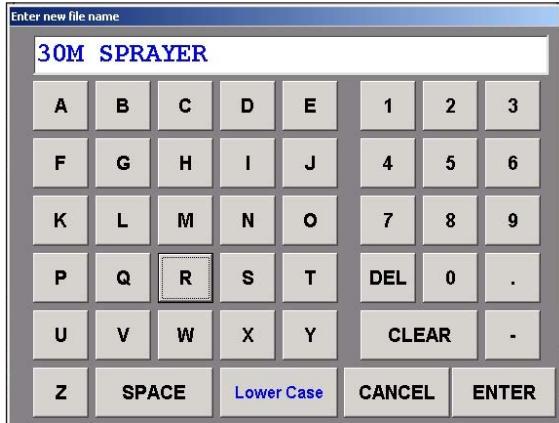

Figure 9-2. Screen Keyboard
The screen shown in Figure 9-2 on page 9-2 will be displayed
- Using the screen keyboard (Figure 9-2) enter in a name for the Sprayer